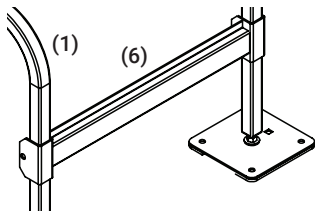

Fig. 4
4. If using QSMS1800 or QSMS2400, attach Stability Brace (6) to the midpoint of the leg as shown in Figure 4 based on typical hardware arrangement. For QSMS1200, skip this step.